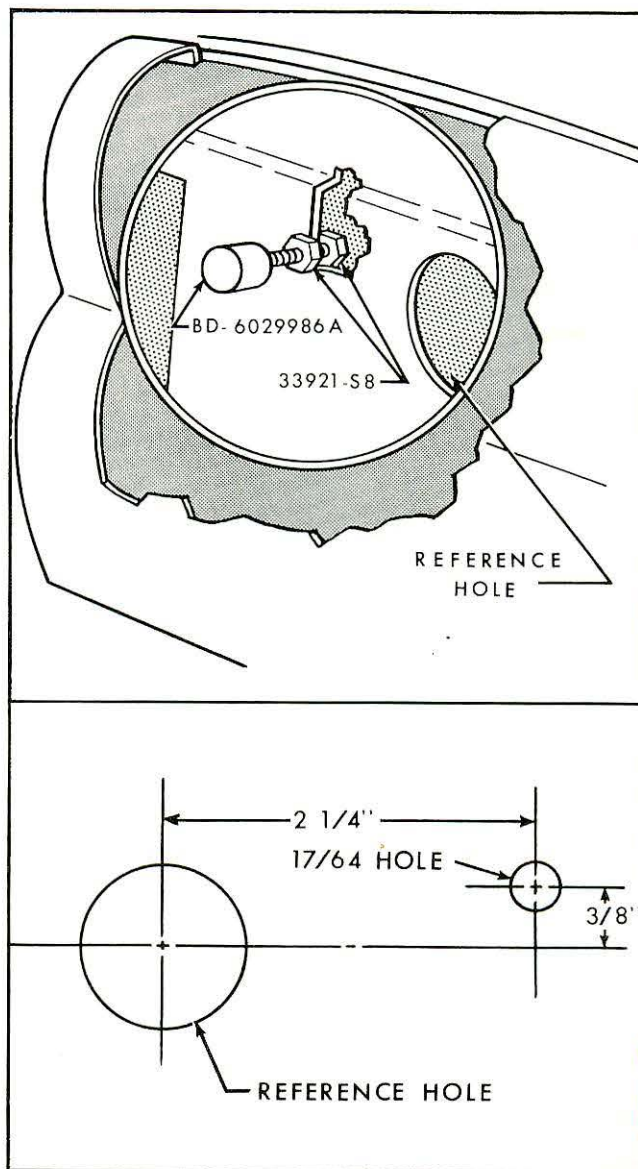

FIGURE 1 — INSTALLING REAR WINDOW BUMPER
2. Locate and drill one $\frac{17}{64}$ " hole as shown in figure 1.